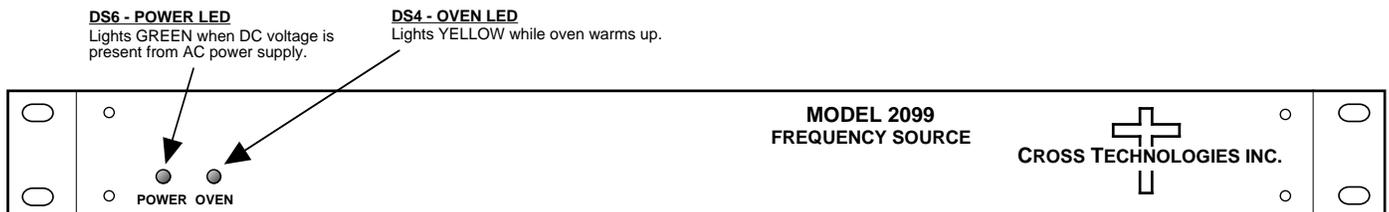

FIGURE 2.2 2099-100 Front Panel Controls and Indicators
- 3.) Be sure DS6 (green, POWER) is on (Figure 2.2).